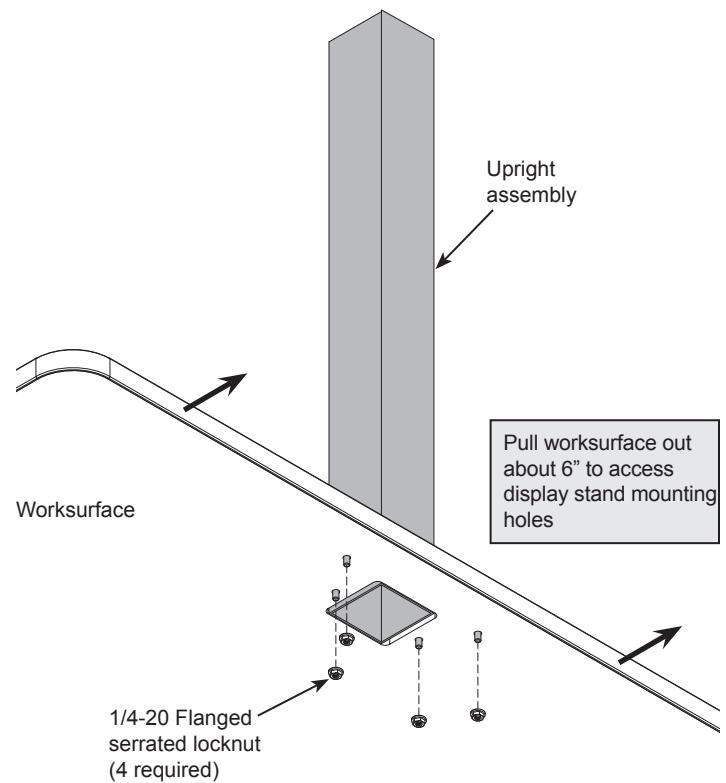

Figure 3
- An unattached worksurface will facilitate installation of the display stand fasteners. If attached, remove the worksurface fasteners securing it to the base and slide the worksurface 6" over the base to provide access to the display stand mounting holes. **Figure 3**.
- With a second person holding the upright, Install (4) 1/4-20 Flanged serrated locknuts and tighten securely.